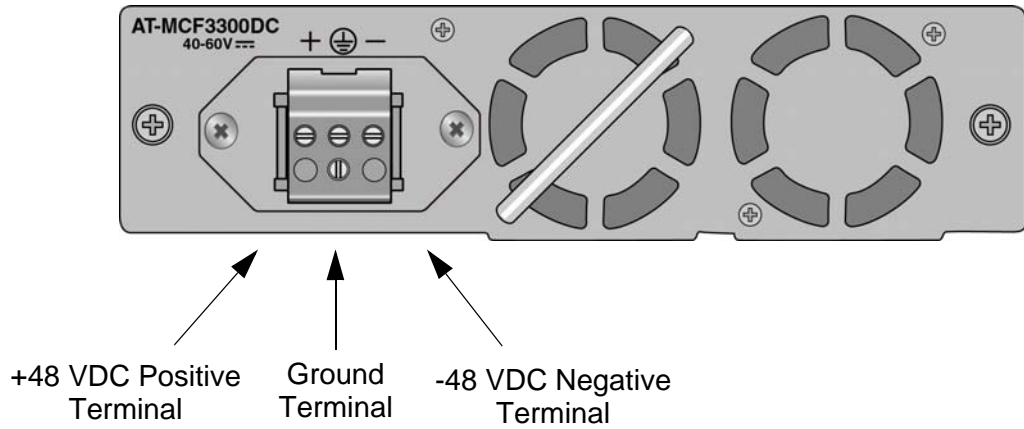

Figure 55. DC Terminal Block
2. Use the legend above the terminal block to identify the terminals. The terminals are **positive**, **power supply ground** and **negative**, from left to right, as shown in Figure 55.